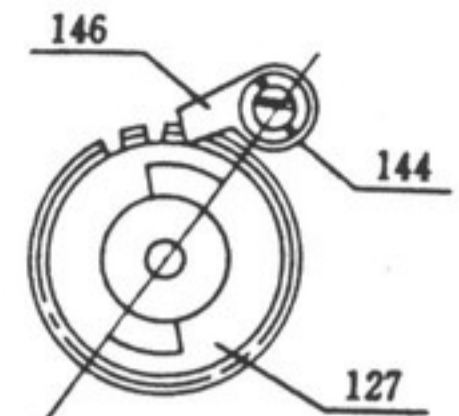

Fig. 1
1. Position of Primary gear (127)
As shown in Fig. 1, it must be positioned so that the center of Ratchet pawl screw (144) and the projecting parts of Primary gear (127) may be on one straight line. In this case, Ratchet pawl (146) must be placed between the teeth of Primary gear completely.